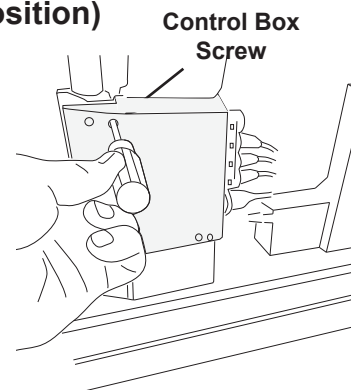

Figure 47.
4. Apply upward pressure on the control box while unscrewing the control box securing screw (Figure 47).